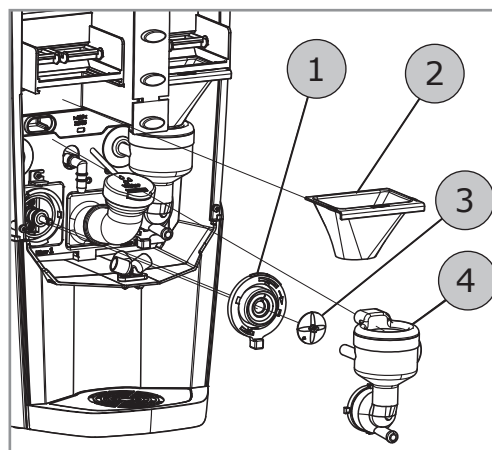

Figure 31
2. Remove the funnel (2), mixer bowl (4), whipper (3) and the fixing plate for the mixer bowl (1, figure 31).